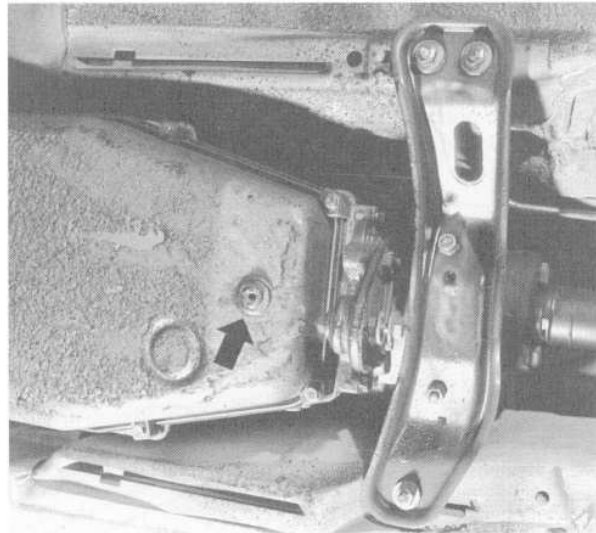

Fig. 20. ATF drain plug on 4HP 22 transmission (arrow).
2. Remove drain plug and drain fluid into container. See Fig. 20.